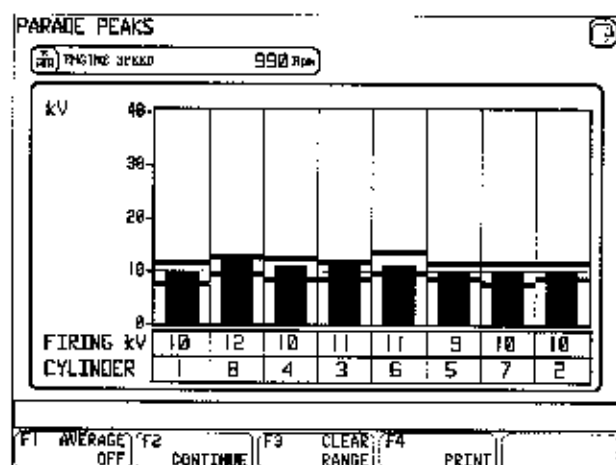

Figure 2-20
3. The "Parade Peaks" screen appears (see Figure 2-20). The vertical bars show the "live" readings, while the horizontal lines across each column represent the high and low kilovolt peaks. The average line is the straight line across all the columns shown.